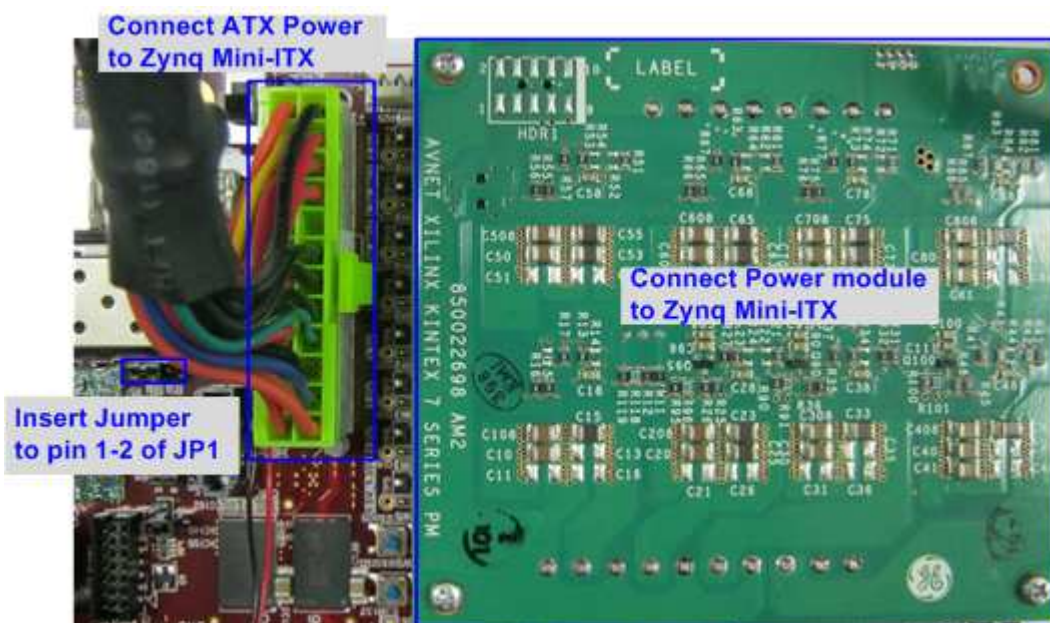

Figure 2-5 The power module installed onto the board
- ii. As shown in Figure 2-5, install a jumper on JP1 pins 1-2 to enable JTAG chain, install the power module onto the board via J8, J9, J10 connectors, and connect ATX power cable to FPGA board via P2 connector.